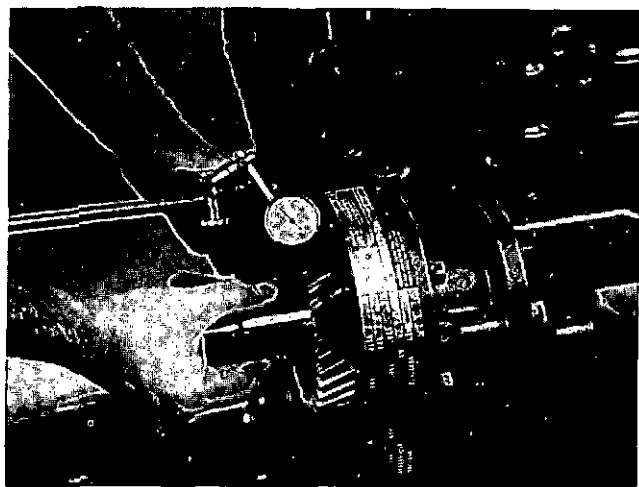

Fig. 14-36 (N114263). Check The Gear Backlash.
- a. Install a dial indicator gauge onto the cylinder block. Position the gauge so that the stem is against a tooth on the accessory drive gear, Fig. 14-36.